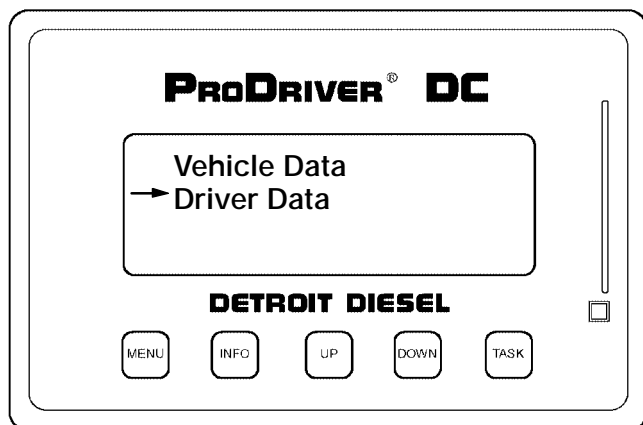

Figure 5-9 Vehicle and Driver Data Screen
- Driver Data, **INFO** (see Figure 5-9) .